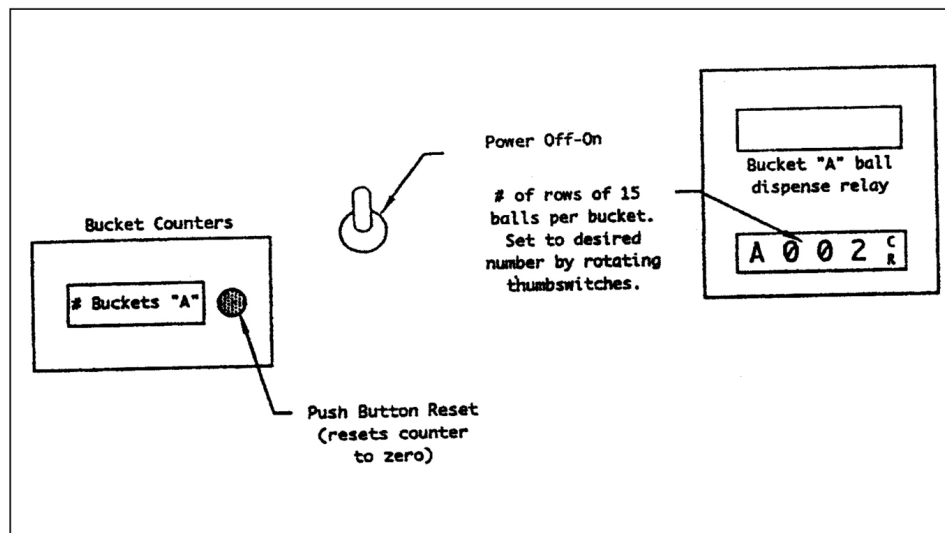

Figure 5: Ball count relay display
You can adjust the ball count manually by changing the relays in the control box (see Figure 5), which is located behind the token mechanism face plate.
The dispenser also keeps a running count of buckets dispensed (see Figure 5). The counter increases by one (1) every time 15 balls are dispensed. The bucket counter can be reset to zero (0) when you push the Reset Button.